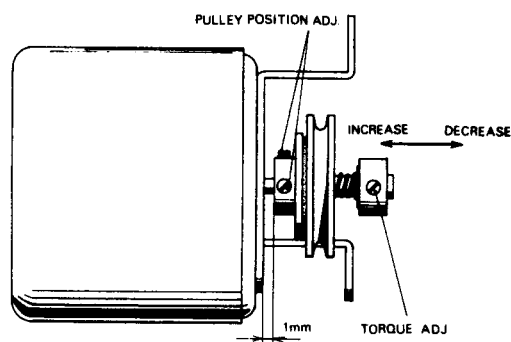

Fig. 6.2
- (2) Fast Forward and Rewind Torque should not be less than 50g-cm.
- (3) Adjust the friction torque by adjusting location of motor friction pipe. Refer to the Fig. 6.2.